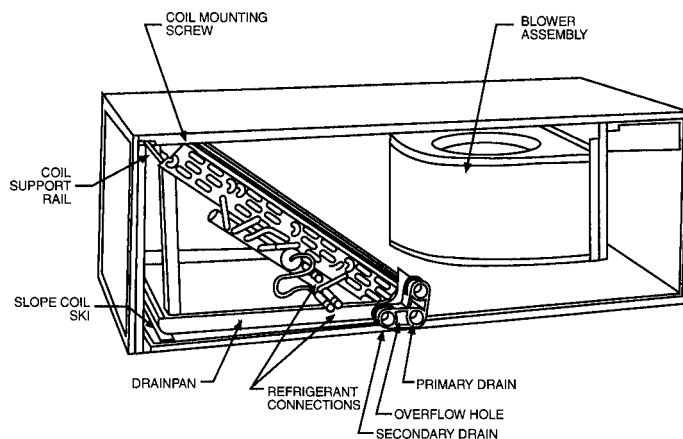

Figure 5
4. Lay fan coil unit on its right side and reinstall coil assembly with condensate pan down. (See Fig. 5).
6. Convert air-seal assembly for horizontal right. (See Fig. 5).
- C. Remove filler plate (A) and install air splitter (B) in place of filler plate.
- D. Install filler plate (A) as shown in horizontal right application.
- E. Remove condensate troughs (C) and install on opposite tube sheets.